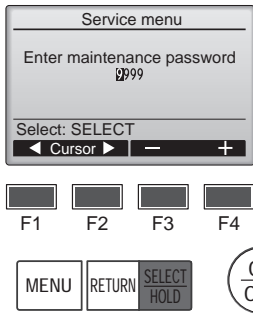

Fig. 7-3
- ① Select "Service" from the Main menu, and press the [SELECT/HOLD] button.
- ② When the Service menu is selected, a window will appear asking for the password. (Fig. 7-3)